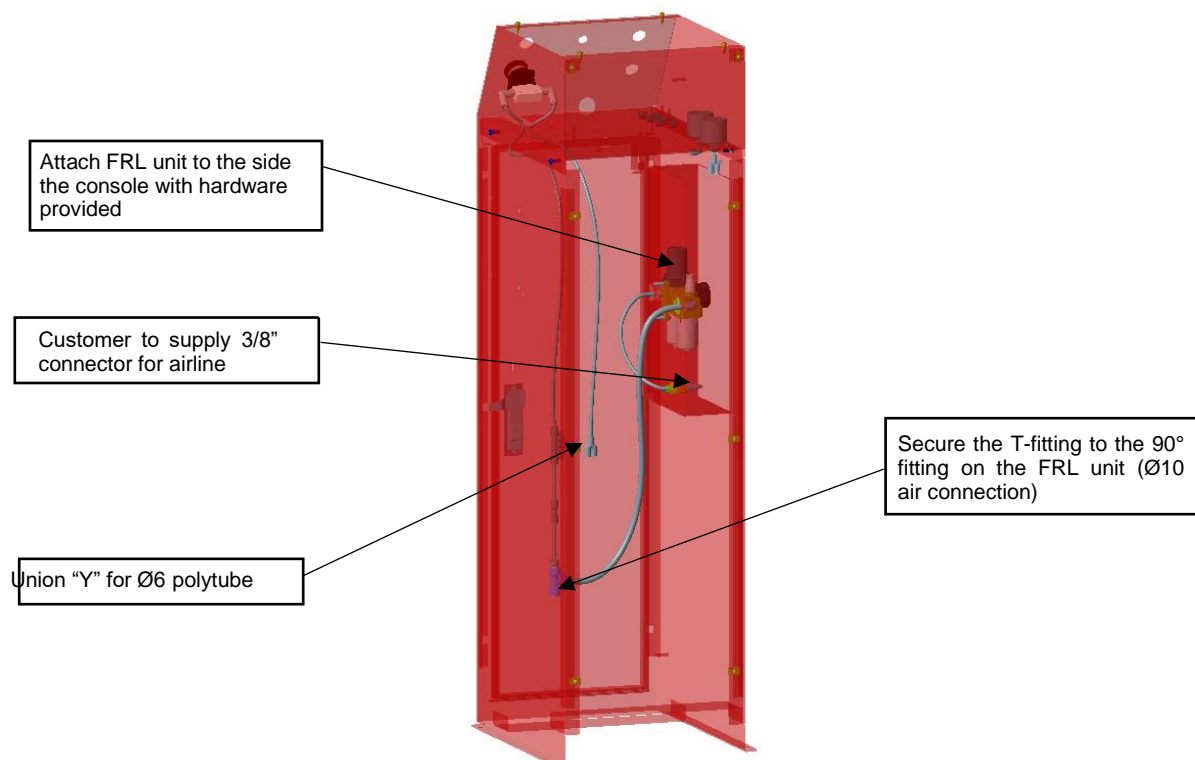
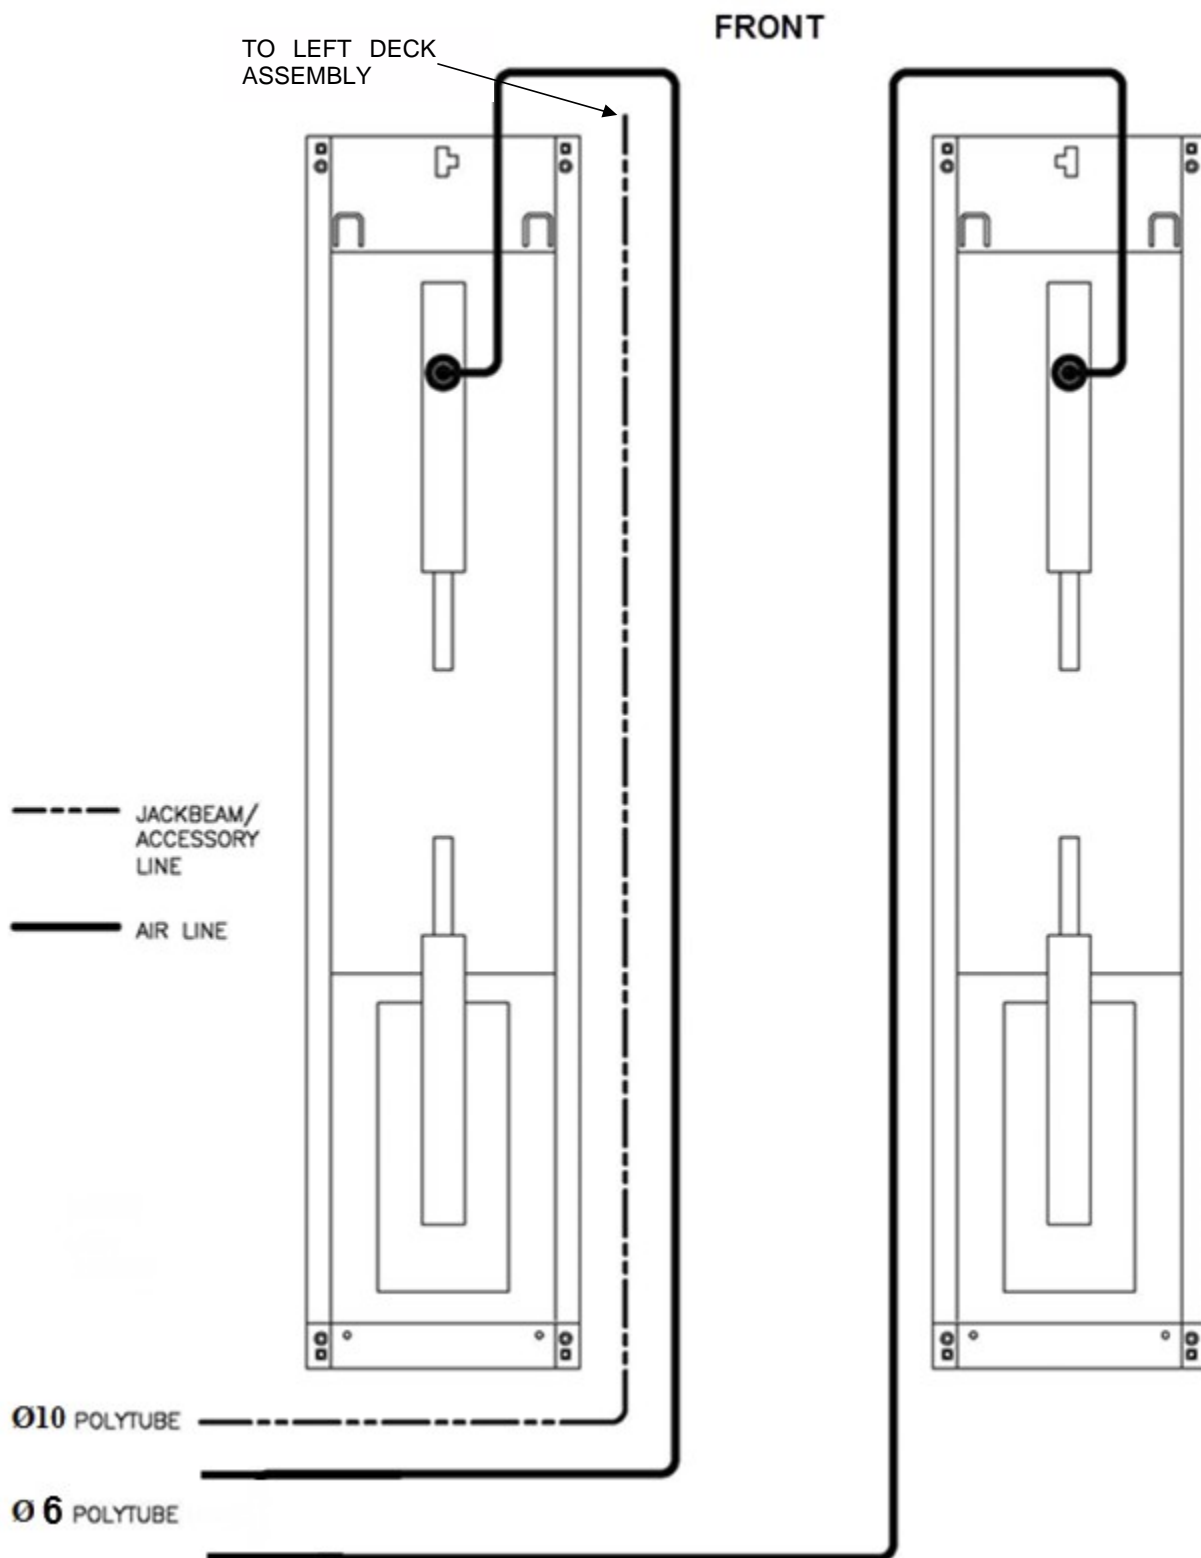

Figure 9 - Air Safety & Auxiliary Air Connections
Figure 11 - Air Safety & Auxiliary Air Connections
1. Uncoil the Ø6mm polytube from each base frame that is connected to the air release cylinder. Route this line to the 'Y' connector in the console. (Figure 9, Figure 11)
2. The Ø10mm polytube for the auxiliary air connections is coiled from left side base frame. Route this hose to the console and connect it to the T- fitting inside the console. (Figure 9, Figure 11)